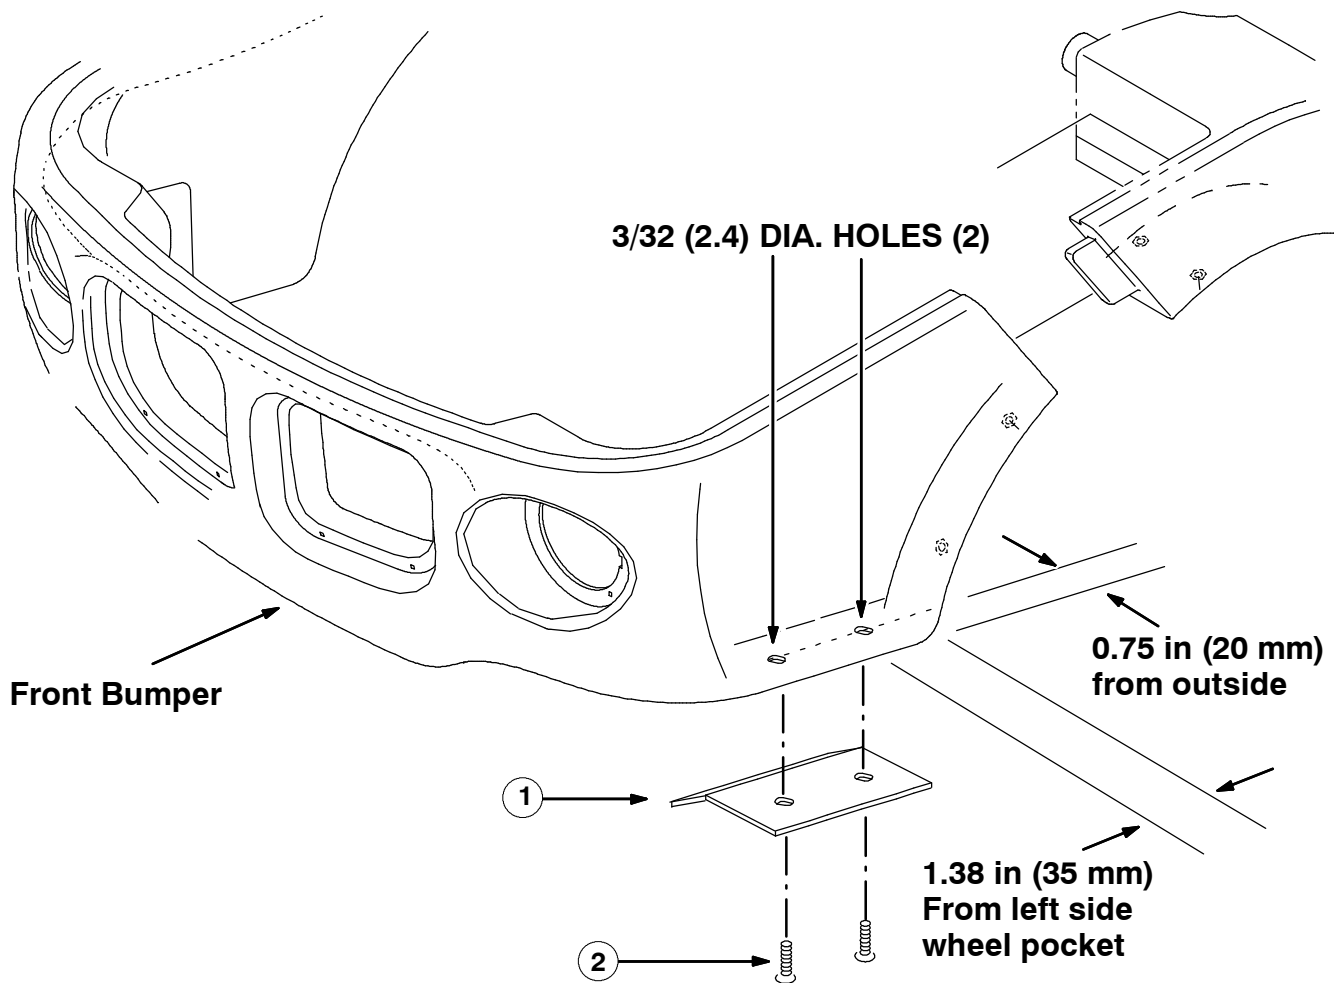

FIG. 1 - DEFLECTOR ANGLE INSTALLATION
(Refer to FIG. 1)
1. Mark and drill the rear 3/32 (2.4 mm) deflector mounting hole under the left side bumper of the machine according to the dimensions shown in figure one. (Refer to FIG. 1)
2. Using the deflector angle (1) as a template, align the angle (1) with the first hole and mark the location for the second hole in the bumper.
4. Mount the deflector angle (1) under the bumper with two mounting screws (2). Check that the angled edge faces inward and downward. The mounted angle (1) should prevent air from the filter outlet from blowing out from under the left side of the machine. (Refer to FIG. 1)